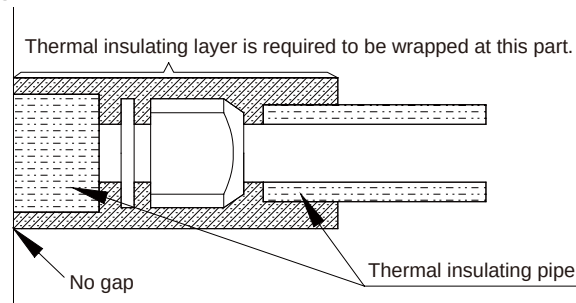

Fig. 9
(2)The joints of the indoor unit should be wrapped with the insulating material with no gap allowed on the joint of the indoor unit, as shown in Fig. 9.